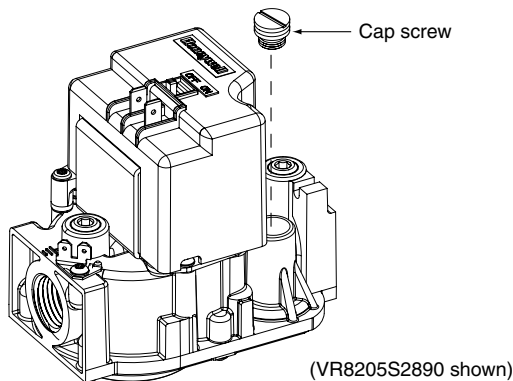
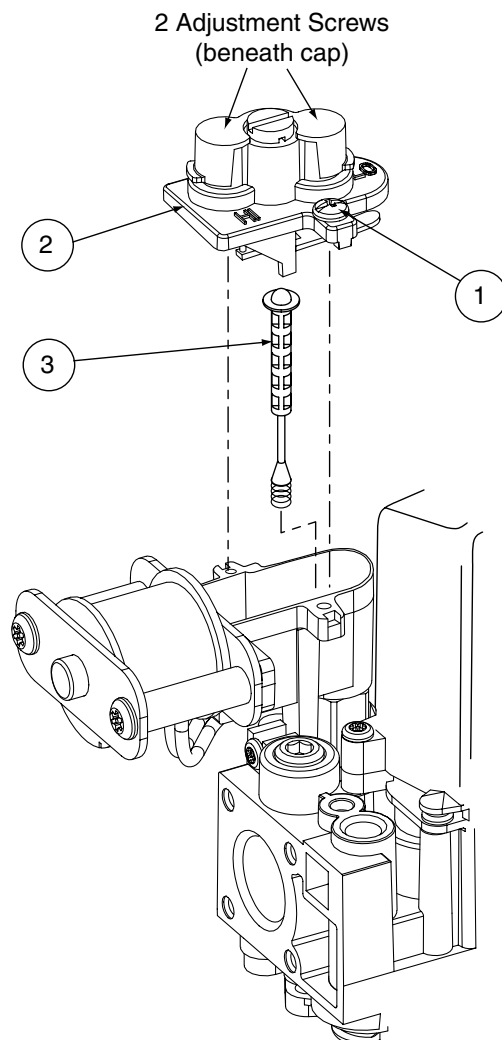
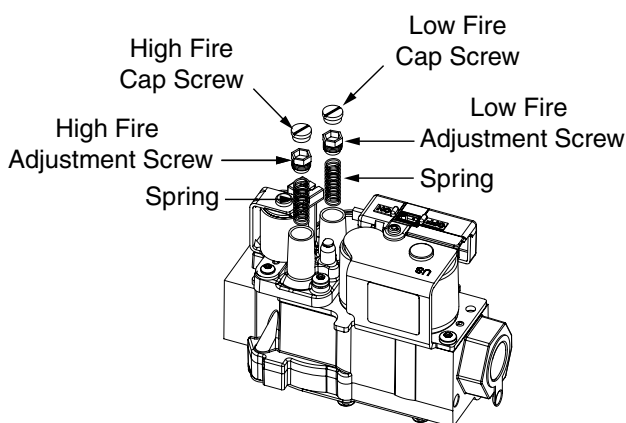

Figure 2. Cap Screw Removal
Figure 4. Spring / Stem Assembly Removal
Figure 5. Pressure Regulator Spring & Adjustment Screw Removal
1. Remove the cap screw from the gas valve as shown in Figure 2.
1. Remove two screws (1) securing the pressure regulator cover assembly (2) to the gas valve. See Figure 4.
2. Remove the pressure regulator cover assembly (2) from the gas valve.
3. Remove and discard the existing stem/spring assembly (3) from the gas valve.
4. Install the replacement stem/spring assembly (3) from the conversion kit.
5. Reinstall the pressure regulator cover assembly (2) onto the gas valve.
6. Install the two screws (1) and tighten.
1. Remove the HIGH fire cap screw. See Figure 5.
1. Single stage gas valve: Remove the cap screw from the top of the gas valve regulator. See Figure 2 (page 4) for VR8205S2890 or VR8215S1289 models.
2-stage gas valve: For VR8205Q2381 models, remove the plastic cap covering the adjustment screws (Figure 4 page 4). For VR9205Q1127 models, remove the cap screw (Figure 5, page 5).
Figure 2 for VR8205S2890 or VR8215S1289 models. See Figure 4 for VR8205Q2381 models or Figure 5 for VR9205Q1127 models.